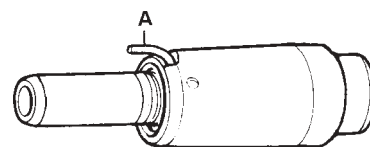

fig. 1
- In external spray version, AIR and WATER come out of tube "A" (fig. 1).